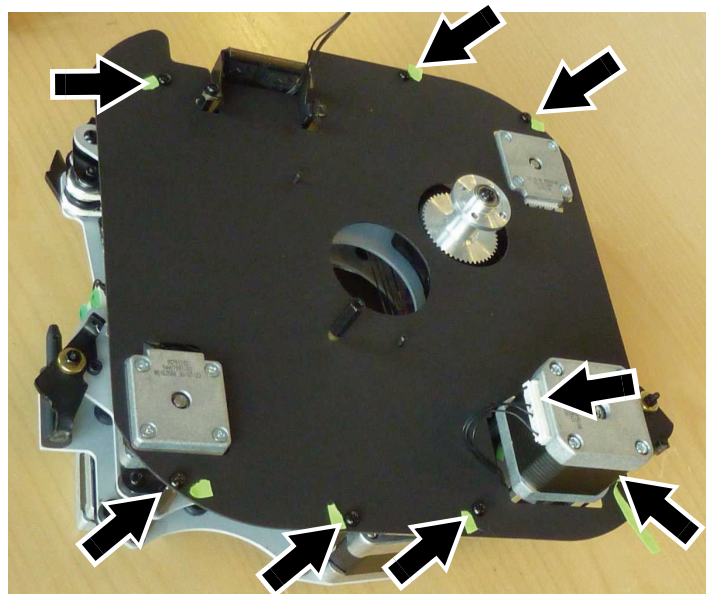

Figure 22
25. See Figure 22. Put the new spill limiter plate into position, passing leads and connectors carefully through apertures and checking that no leads are trapped.
26. Re-using the six panhead Torx M3 x 10 screws you removed in step 21, plus one of the similar screws you removed in step 4, fasten the outside of the spill limiter plate to the pillar bolts under the plate as shown in Figure 22.